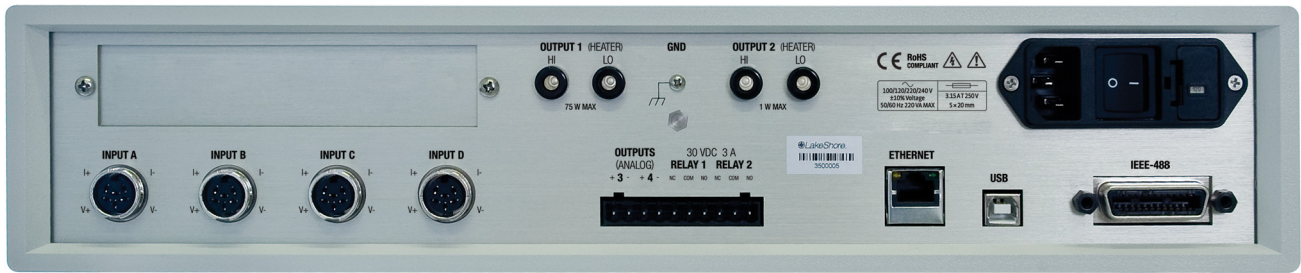

FIGURE 3-1 Model 350 rear panel
This section provides a description of the Model 350 rear panel connections. The rear panel consists of the Input A, B, C, and D sensor input connectors (#1 in FIGURE 3-1), Output 3 and 4 analog voltage output and relays 1 and 2 terminal block connector (2), RJ-45 ethernet connector (3), USB B-type connector (4), IEEE-488 interface connector (5), line input assembly (6), Output 1 and 2 heater output connectors (7 and 8), and the thermocouple option card inputs (9). Refer to section 8.10 for rear panel connector pin-out details.